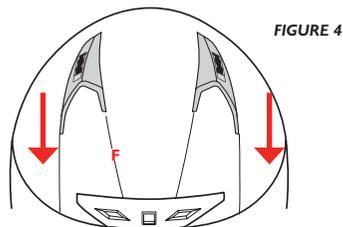

FIGURE 4
### FRONT AIR INTAKE UPPER — F — Figure 4/5
- Figure 4: Slide the cursors forwards to completely close the air intake